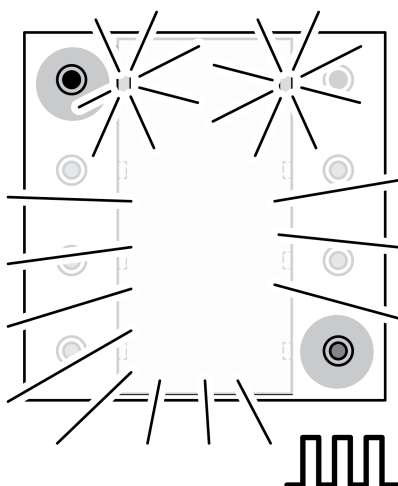
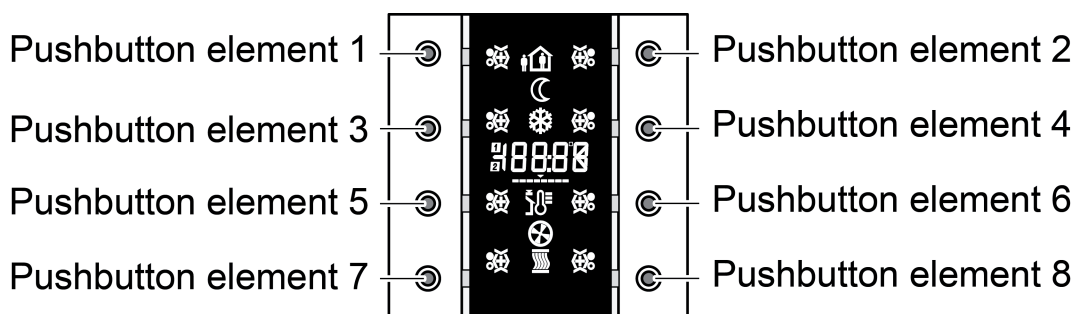

Figure 9: Actuation points for activating programming mode
Figure 10: Arrangement of the pushbutton elements
- Activate Programming mode. Press the actuation point at the top left (1) on the TSM and keep it depressed (figure 9). Then press the second actuation point at the lower right (pushbutton element 8) (figure 10) press.
The device possesses 8 mechanically separated pushbutton elements. The control surfaces are the pushbutton elements combined under an attached design cover. Irrespective of the device variant, the device always possesses eight pushbutton elements. In the 2-gang device variant, 2 pushbutton elements are always combined to form a control surface. The pushbutton elements are visible when no design covers are attached. In the 2-gang device variant, two pushbutton elements are always combined to form a button. Using pushbutton elements 1 and 2, (figure 10) it is possible to operate the operation level and the menu level of the display. For this reason, full-surface operation of rocker 1 is not possible when the menu level is enabled. Depending on the configuration, it is possible to implement a change of the display using each button.